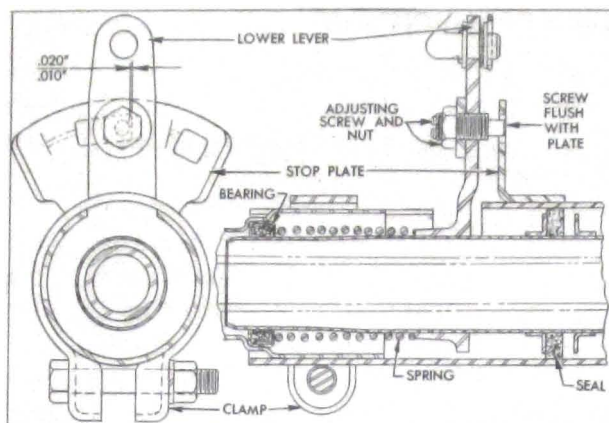

Figure 5-24—Lower Lever and Stop Plate
1. With shift control lever released, the stop screw in control shaft lower lever must be flush ( $\pm .010''$ ) with upper surface of stop plate. Adjust as required. See figure 5-24.
2. With shift control lever in Drive position, .010" to .020" clearance must exist between the stop screw and the upper edge of large opening in stop plate. See figure 5-24. Since this clearance cannot be readily checked because of location, it may be assured by carefully performing the following adjustment.